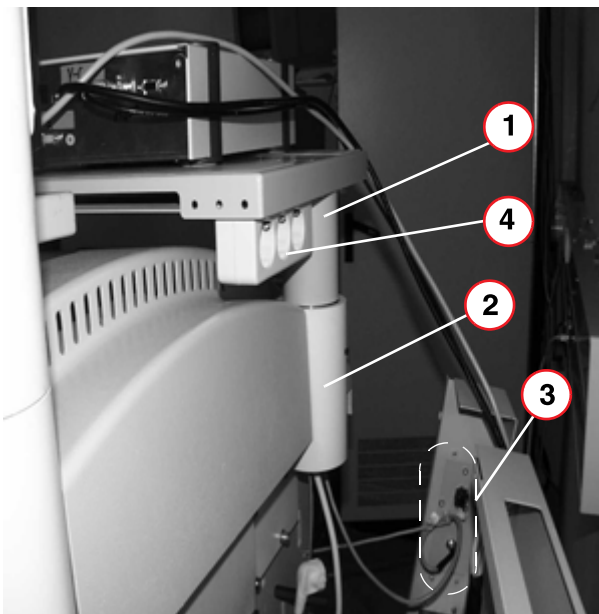

Fig. 77: Endoscopy shelf with endoscopy interface
- Route the connection cable (20 m) through the unit connection of the unit carrier (1/Fig. 77 / p. 66); (2/Fig. 77 / p. 66).
- Install the shelf in the mount (1/Fig. 77 / p. 66) and secure it with the threaded pin (2/Fig. 77 / p. 66).
- Install the emergency shutdown plate in the back wall of the unit and secure it tightly via screws (3/Fig. 77 / p. 66).
The connection of the multiple socket outlet (4/Fig. 77 / p. 66) and the on-site connection of the 20-m connection cable (3 x 1.5 mm²) may only be performed by an authorized specialist and must follow the country-specific regulations provided by the operator. This may not be performed at the system contactor (see document “Planning Guide; System; UROSKOP Access (e) “ [SPL5-330.891.01.xx]).